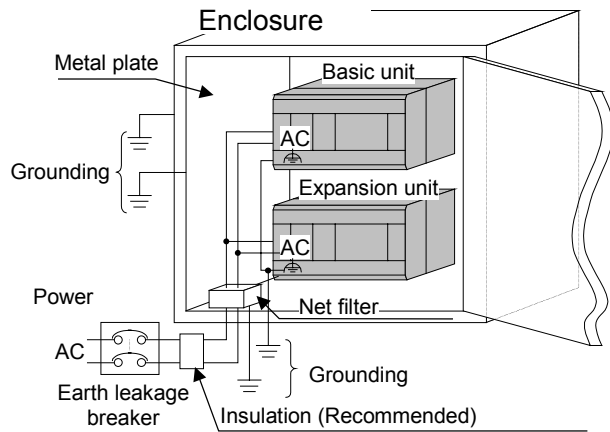

Figure 1 Power wiring example
- The basic and expansion unit should be wired to a common power source and powered up together as shown in fig. 1.